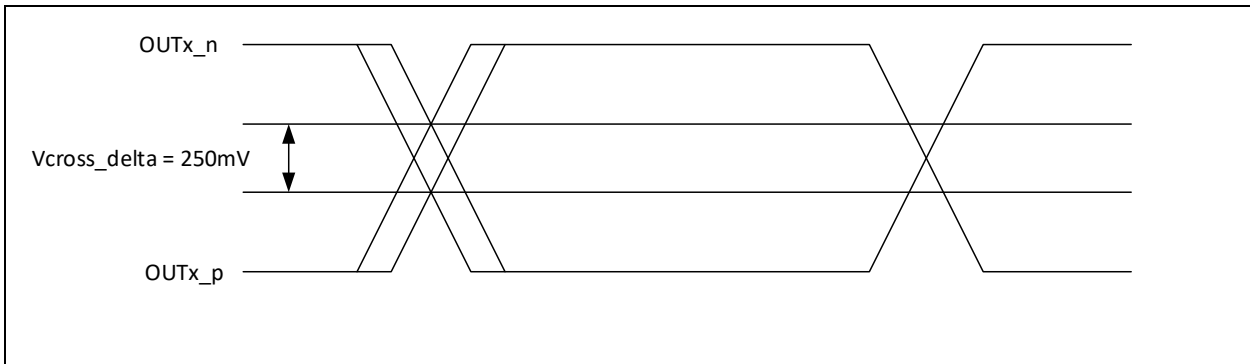
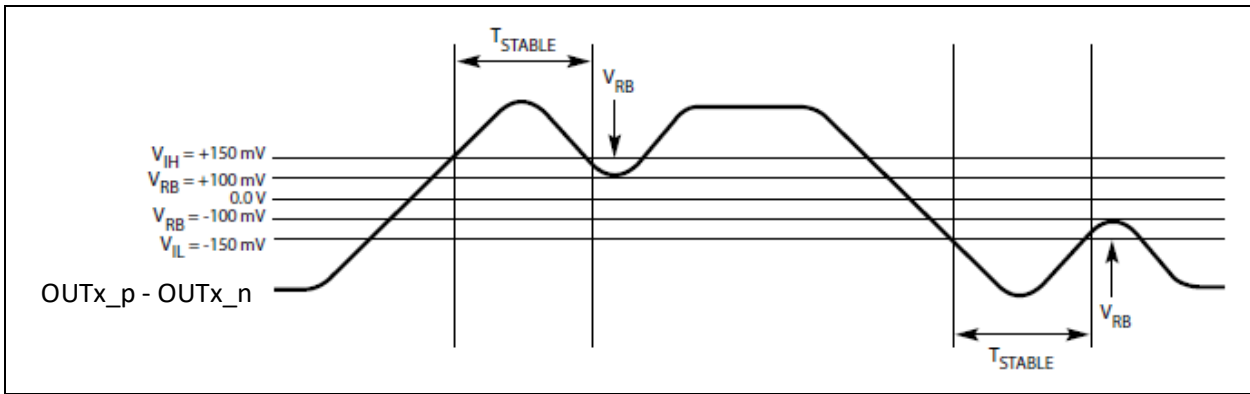

Figure 19. Single-Ended Measurement Points for Delta Cross Point
Figure 22. Differential Measurement Points for Ringback
(9) Defined as the total variation of all crossing voltages of Rising CK and Falling CK# This is the maximum allowed variance in VCROSS for any particular system. See Figure 19.
(10) The PPM requirement from PCIe Express Base Specification, Revision 4.0 is related to clock generation devices. This requirement is not applicable to buffers because buffer's output frequency accuracy is identical to the frequency accuracy of the source driving the buffer.
(11) T_{STABLE} is the time the differential clock must maintain a minimum ±150 mV differential voltage after 20 rising/falling edges before it is allowed to droop back into the V_{RB} ±100 mV differential range. See Figure 22.